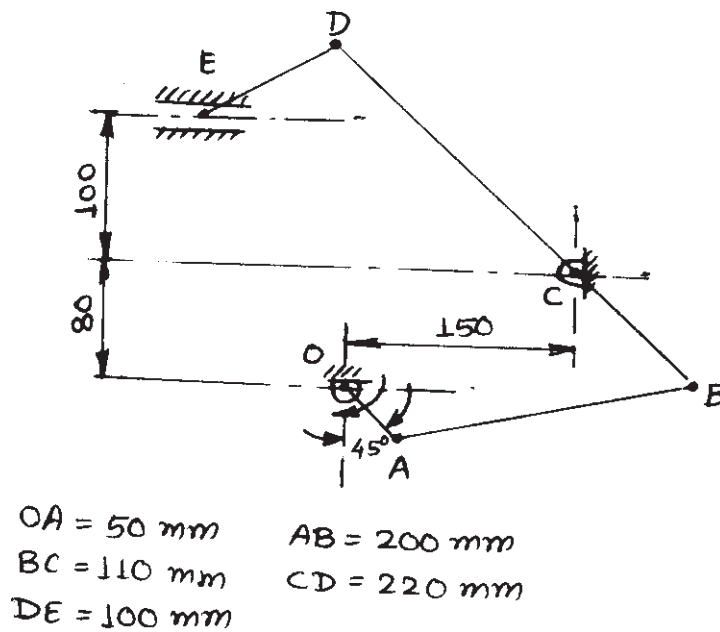

Fig. 1
- b)** Fig. 1 shows part of an opposed piston engine mechanism. The velocity of the piston E for the given instant is 780 mm/s. The crank 'OA' rotates at uniform speed in clockwise direction and makes an angle of 45° to